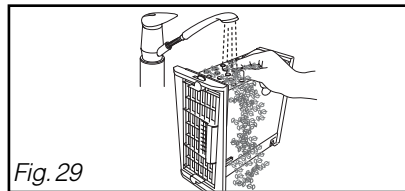

Fig. 29
- Clean it with water only under the tap (Fig. 29).